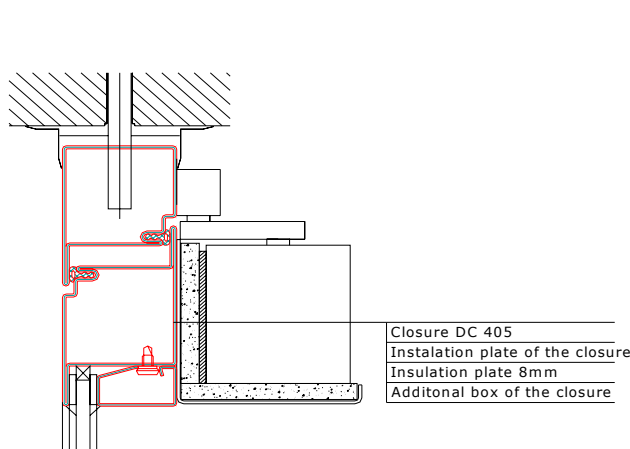
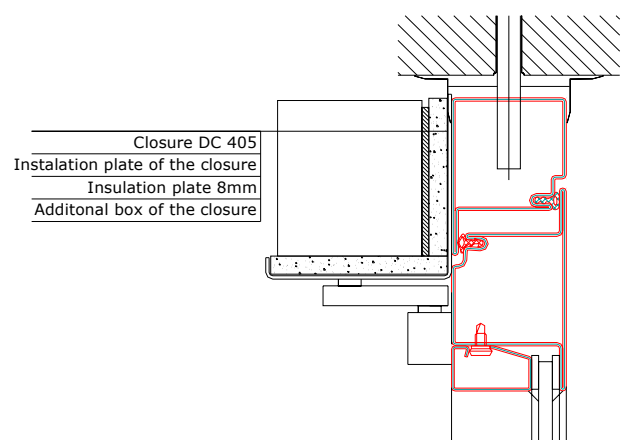

Figure 3.1
Figure 3.2
14. For installation of closure of the door additional details shall be installed, which are shown on figure 3.1 and 3.2, in order to protect the closure from heat radiation during fire. Figure 3.1 shows installation method of the closure in case of inward-opening door, figure 3.2 in case of outward-opening door.